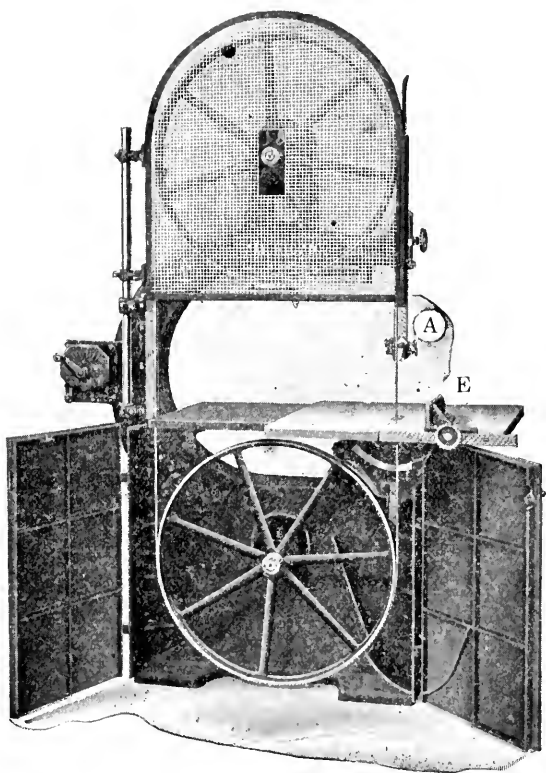
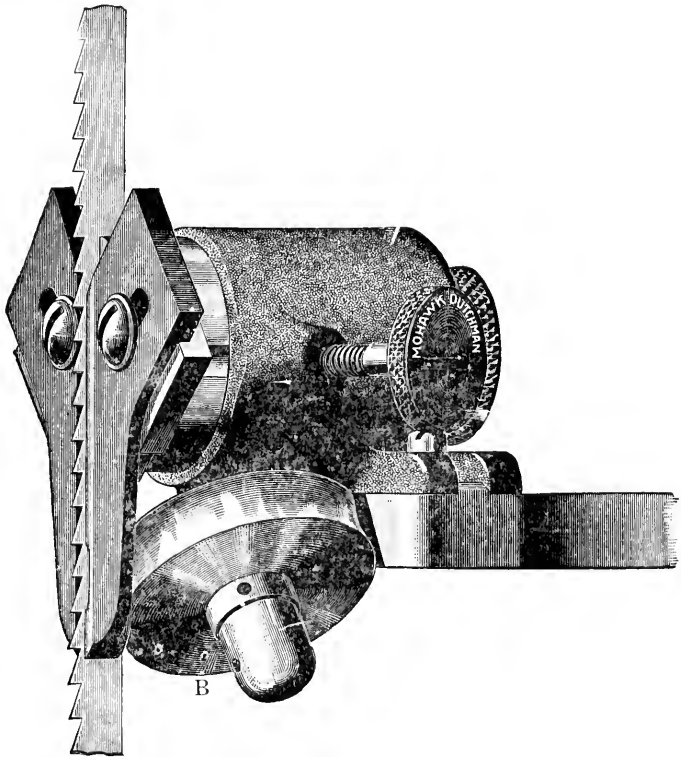

FIG. 36 — BAND SAWS "A" GUIDE POST "E" RIPPING FENCE
FIG. 37--MOHAWK DUTCHMAN SAW GUIDE.
**36. General --** Band saws are made in right and left hand types, the right hand being more universal. Figs. 36 and 39 show right hand machines which are properly guarded. Instead of the wire door as the top some machines have a wooden frame of panel construction. The bottom guard in this case consists of two cast iron doors. Sometimes the lower guard is made of panel doors, or, wire frames similar to the guard on the top of the wheel. The guide post, shown at "A" in Fig. 36 is a very essential part of the machine. The Mohawk Dutchman saw guide which is attached to this guide post is shown on a larger scale in Fig. 37. The guides on either sides of the blades should be set quite close to the saw. The wheel, "B", on which the back of the saw runs,
There are times when the band saw is used in ripping to width. For work of this kind, a fence such as is shown at "E" in Fig. 36 is necessary. Ripping to width on a band saw is not accurate, however, like ripping on the saw table.
**38. Operation--** The guide "A" in Fig. 36 should be kept as low as possible at all times, when operating the band saw. When sawing, keep in front of the saw and do not step around in line with the direction of travel of the saw wheel. Should the saw break, there is no danger if the machine is properly guarded, and you remain at
Another reason for breaking saws is guides not properly set or constructed. The guide shown in Fig. 37, the Mohawk Dutchman Type, eliminates to a great extent; the possibility of cracking and crystallization, and consequently lengthens the life of the saw. The wheel forming the back guide has a concave surface on its periphery. In addition to this, the wheel is set at an angle so that the back of the saw passes diagonally across the point of periphery of the wheel which causes it to revolve. With the point of bearing constantly changing, it prevents the saw grooving the surface of the wheel.